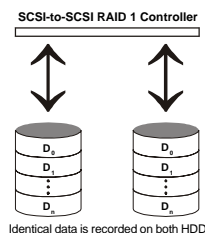

Figure 1
The ARS-2012PE Ultra Wide SCSI RAID 1 Sub-System is dedicated as disk mirroring, consists of pairs of disk drives that store duplicate data (see Figure 1), yet appear to the computer as a single drive which all through **SCSI** (Small Computer System Interface). With ACARD micro-controller core built-in, it provides more flexible and stable for high exploring application. ARS-2012PE supports IDE devices such as hard disk drive, which can be easily attached to SCSI bus.
- Step 4. Enable the terminator of **Mirror Smart Plus** if it is the last device in the SCSI chain. (Please see the following figure 1.)